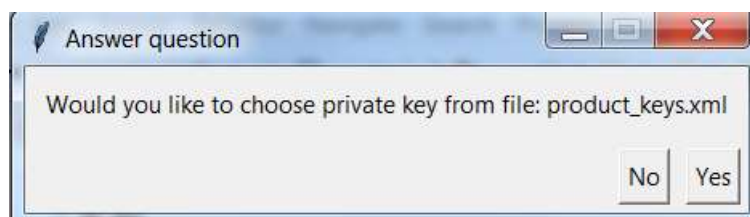

Figure 56: window to select the use of private key
- In this step the user decides to create private key manually (by answering "NO") or automatically (by answering "YES") by choosing it from existed *product_keys.xml* file (Figure 56).